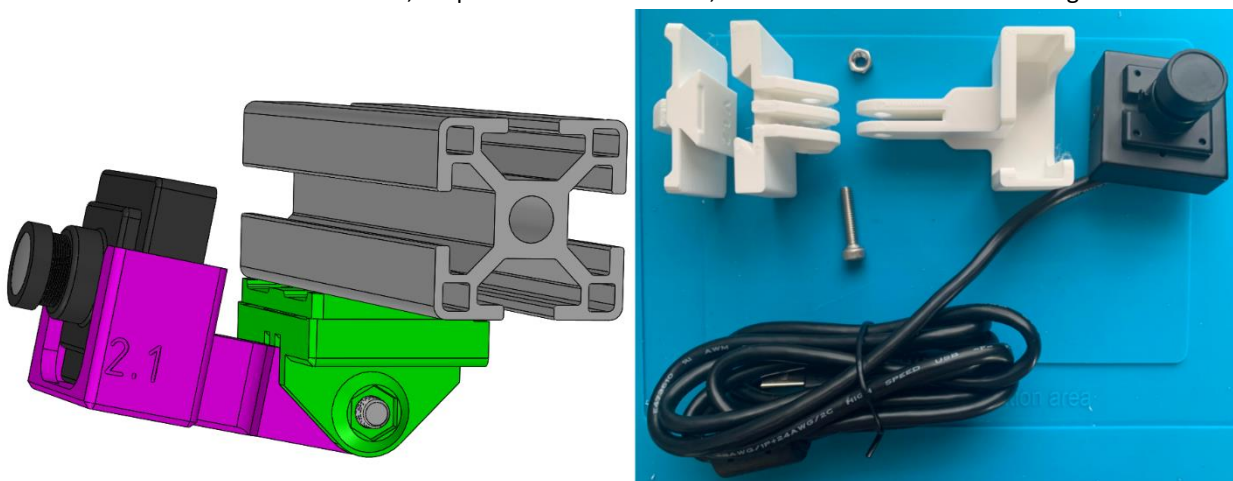

Figure 17
1. You will need the USB camera, 3D printed camera bracket, and an M5 screw and nut like Figure 17 below:
- a. The left side of Figure 17 shows how it should be assembled and mounted; the right side shows the individual parts.